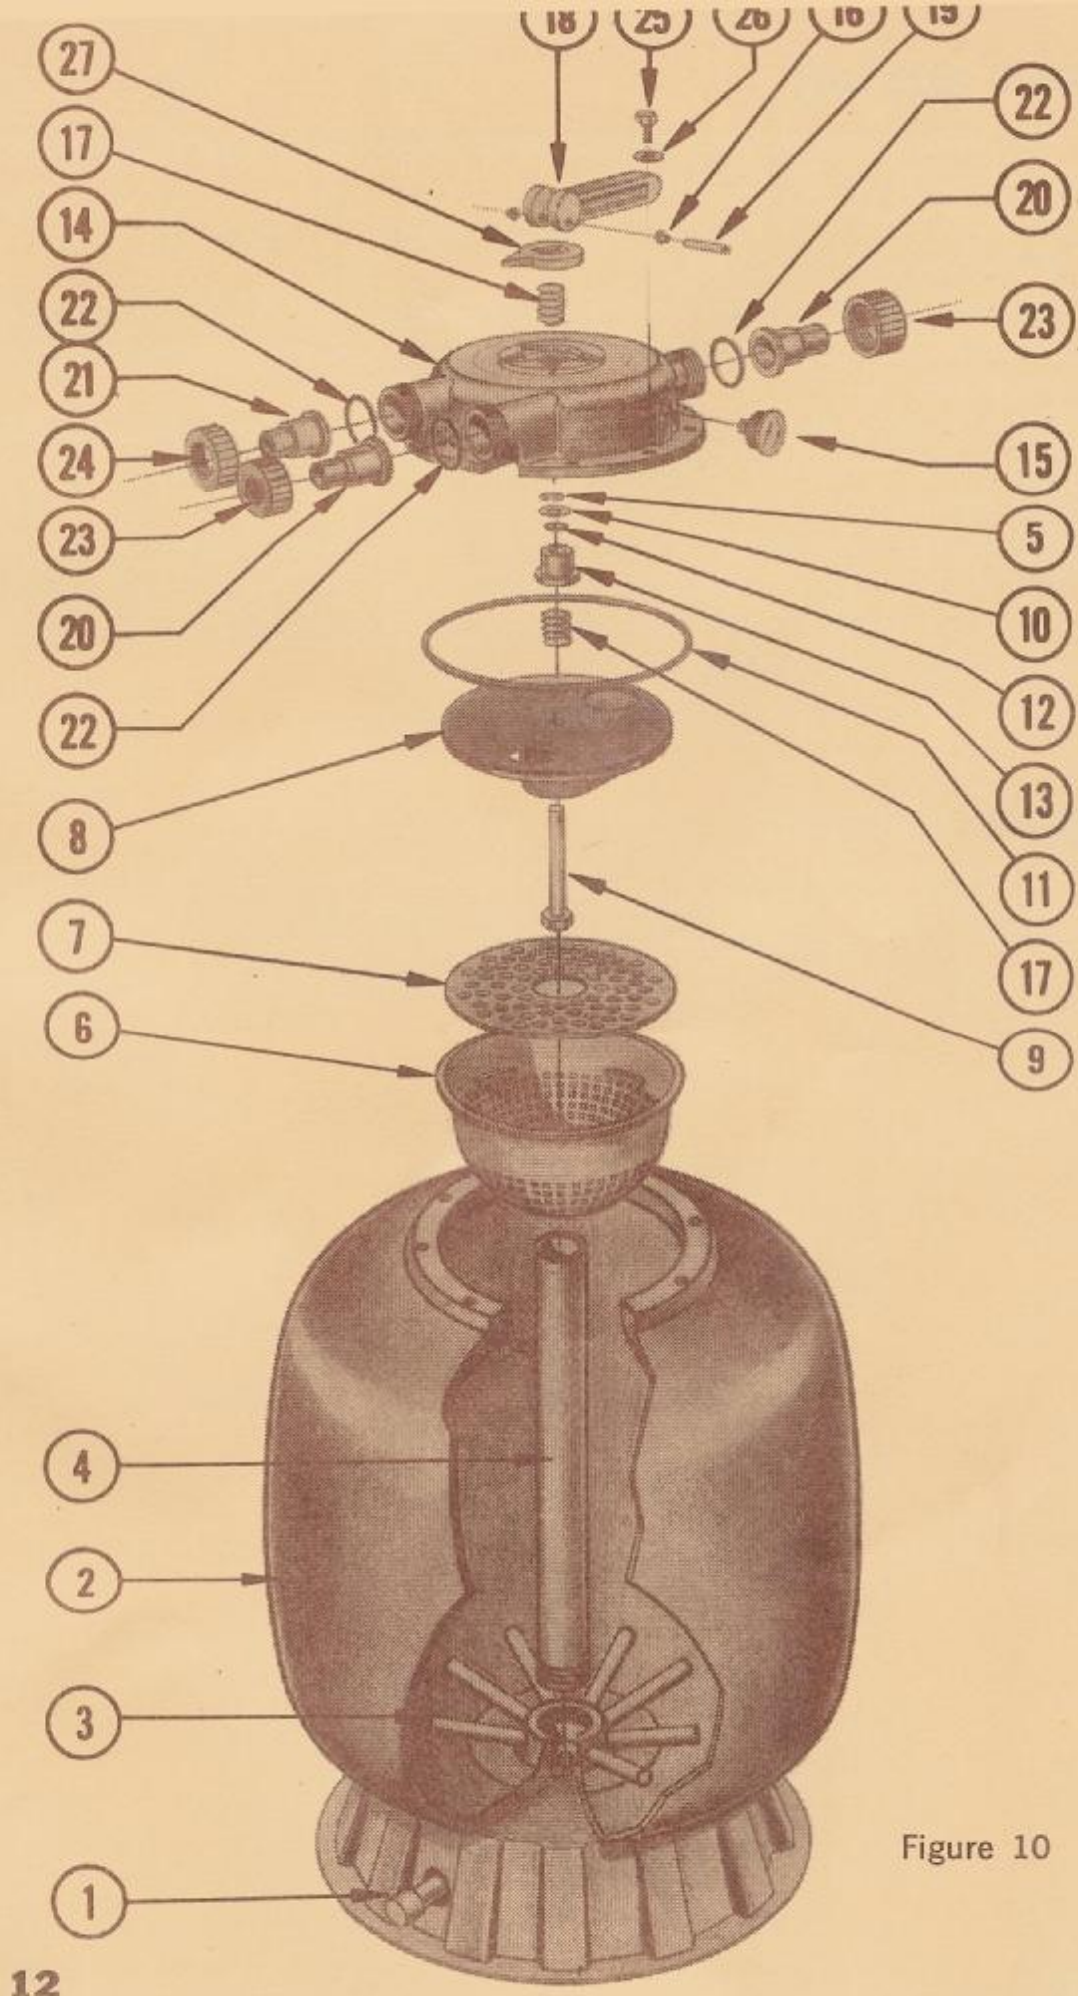

Figure 10
1. Remove valve assembly as shown. See page 12, Figure 10.